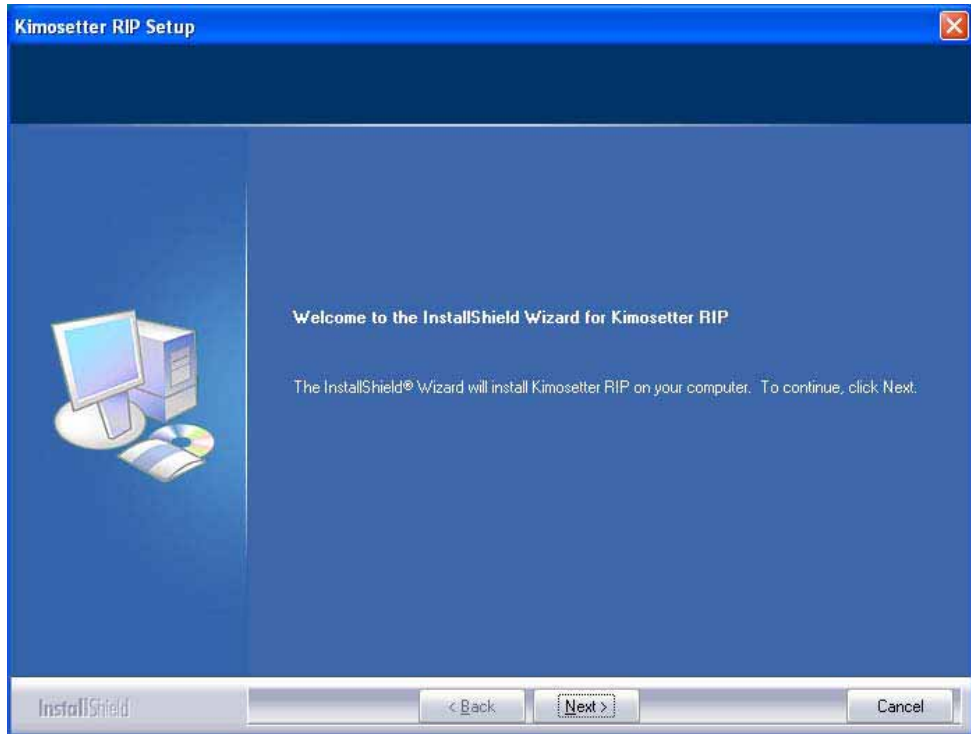

Figure 1-2
1.1.2 If the installer does not run automatically, you can run it manually by double-clicking on the file **setup.exe** in the **Installation** folder on the CD. The Welcome window appears as shown in Figure 1-2.